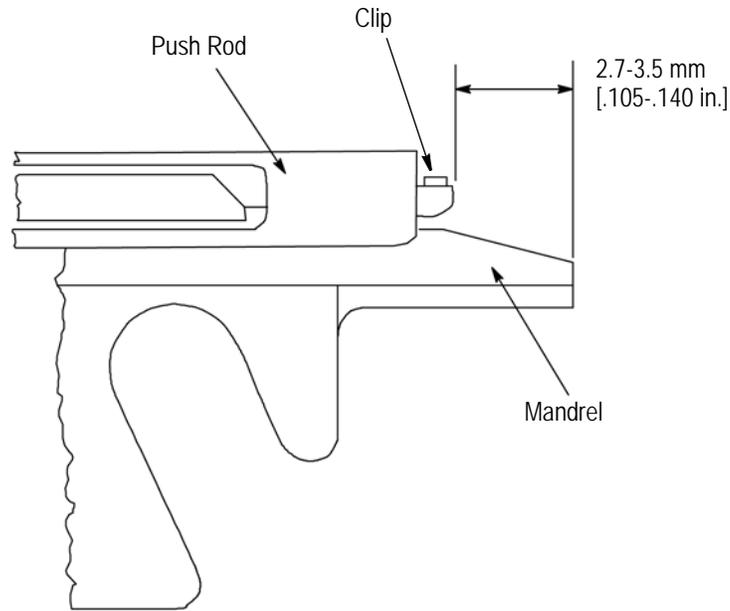

Figure 17
2. With the push rod fully extended, measure the distance from the front of the clip to the front of the mandrel. See Figure 17. If the dimension is not within the range specified in Figure 17, adjustment is required.
3. Move the push rod and drive block forward or backward as required to obtain the required dimension shown in Figure 17.
Since the previous release, the inch dimension in Figure 17 was changed from .195 inches to .105 inches.